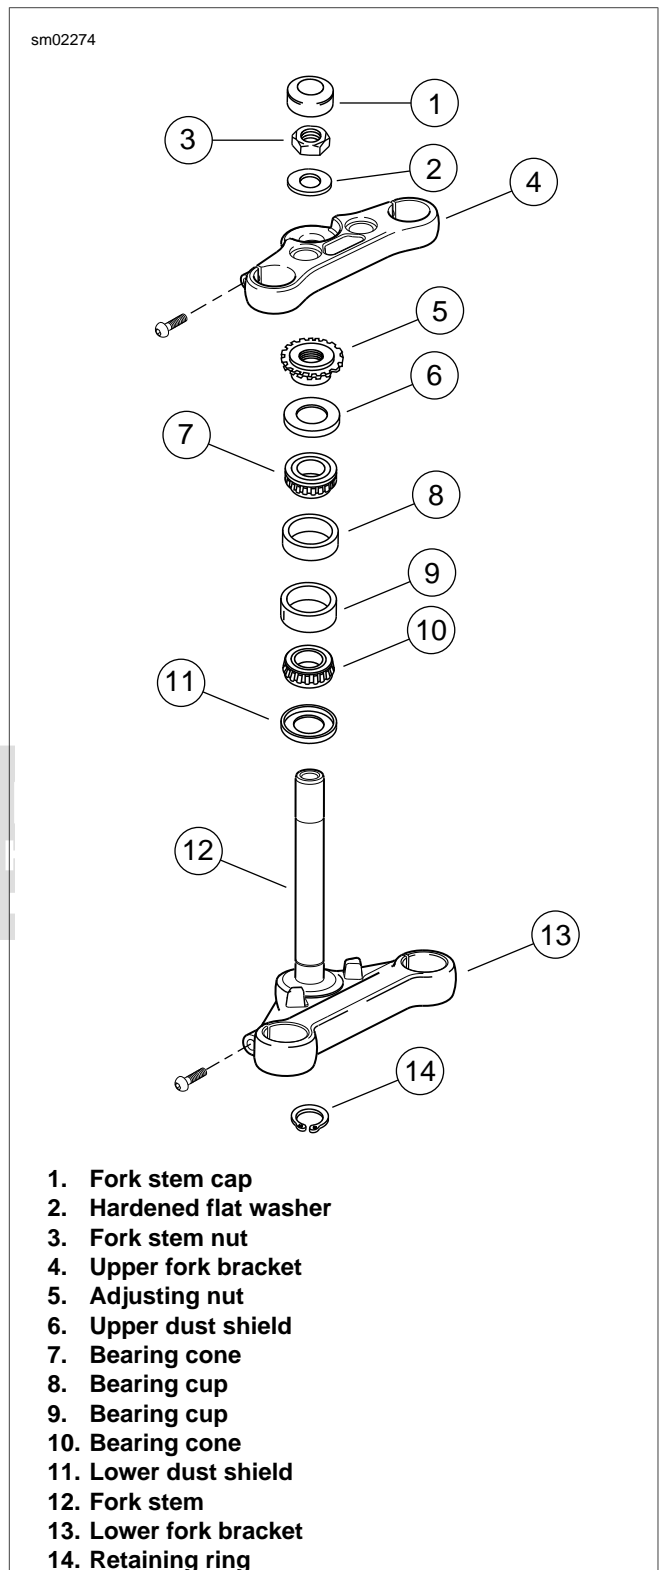

Figure 2-89. Steering Head
3. See Figure 2-89. Remove the fork stem cap (1). Remove the fork stem nut and the handlebar with upper bracket (4). Be careful not to pinch or kink control cables.
4. Remove the adjusting nut (5) and pull the fork stem and bracket (12) out of the steering head. Remove the upper dust shield (6) and bearing cone (7). Slide fork stem (12) and bracket (13) from frame.
2. See Figure 2-89. Install the lower dust shield (11) and new bearing (10) on the fork stem (12).
1. See Figure 2-89. Insert the stem and bracket assembly into the frame steering head and install the upper bearing (7) and dust shield (6). Secure with the adjusting nut (5). Tighten the adjusting nut until there is no noticeable shake or freeplay between bearings and races. Fork stem must turn freely from side to side.